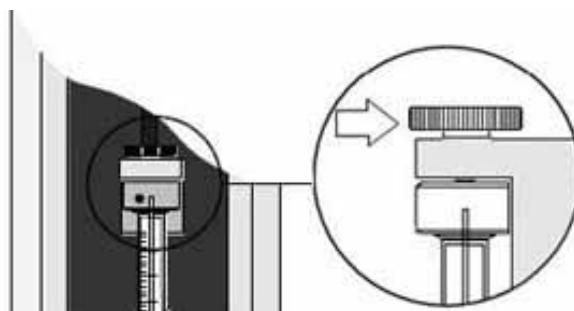

Fig. 62: Releasing the plunger holder
- c) Release the plunger holder by loosening the screw that fixes the plunger holder (→ Fig. 62, page 121).